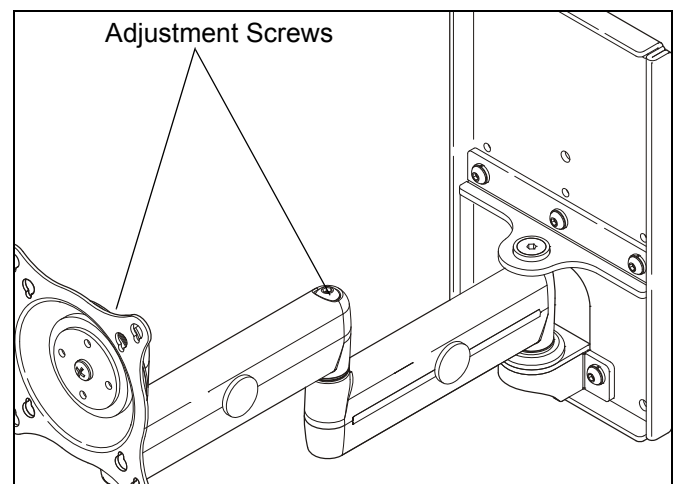

Figure 10
- Using 3/16" hex key, slightly loosen or tighten the adjustment screw(s) as necessary (See Figure 10).